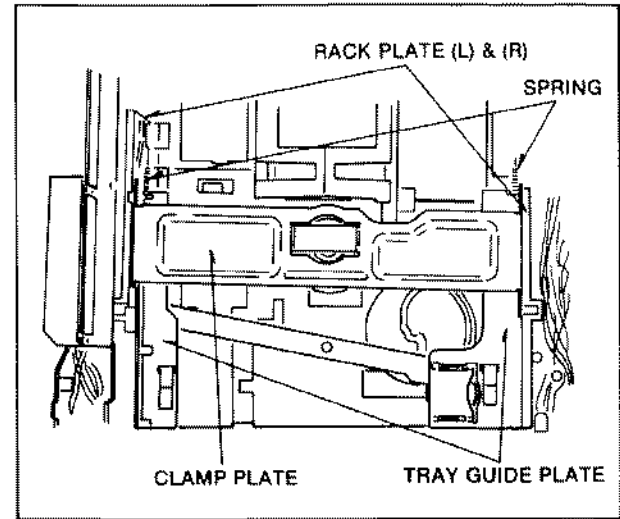

Fig. R5
6. Pull out the Rack Plate (L) and (R), as shown in Fig. R5.